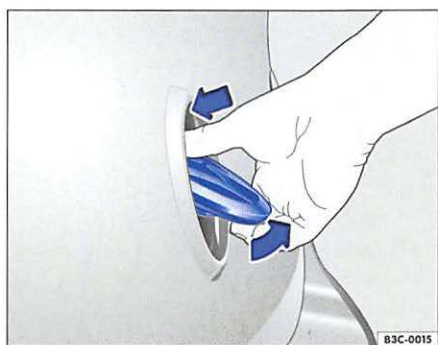

Fig. 31 Rear lid: unlocking rear lid
- Press on the top of the Volkswagen emblem with your thumb ⇒ fig. 31 and pull the emblem out at the bottom. Reach under the emblem with your hand and open the rear lid.